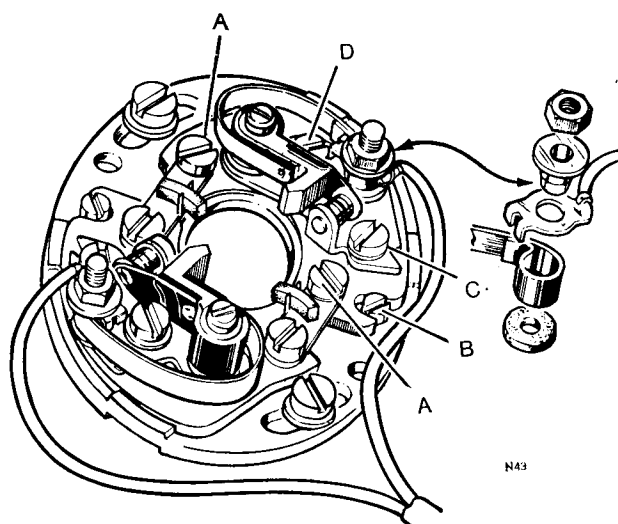

Fig. C50 Lucas contact breaker
11 Using the same technique, check that the contact breaker points open at 28° B.T.D.C. on the firing stroke for the second cylinder. If incorrect, make adjustment by movement of the secondary backplate. To do so, slacken screws (A) in Fig. C50 and use the eccentric headed adjusting screws (B) to move the mounting plate. When timing is correct, re-secure the screws (A).
8 If timing is incorrect for the left cylinder, correct by slackening off the clamping screw for the secondary backplate for this set of points then use the eccentric headed adjusting screw to move the secondary backplate (see Fig. C50—secondary backplate screws are marked "A" and eccentric screws are marked "B"). Recheck timing with the stroboscope and when correct, secure the screws "A".
The Lucas 6 CA contact breaker was fitted to Commandos produced prior to 1973. All 1973 750's and all 850's have the Lucas 10 CA contact breaker assembly. Both systems have a separate and independently adjustable contact set for each cylinder, see Fig. C50. Each contact set is mounted on its own crescent-shaped assembly plate that is fixed to the circular base plate by two screws (A). When these screws are loosened, the assembly plate can be moved in relation to the ignition cam (and the base plate) by the eccentric screw (B). This permits a very accurate setting of ignition timing for each cylinder.